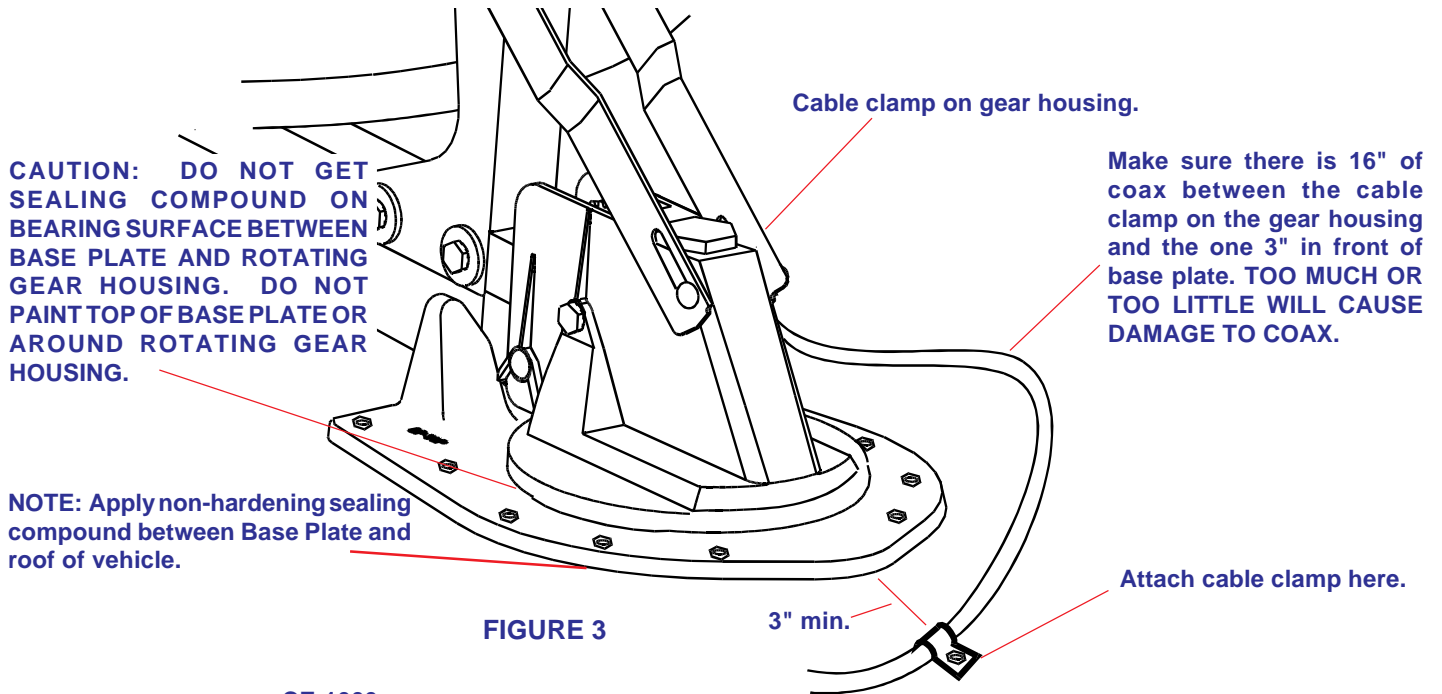

FIGURE 3
STEP 5. Mount antenna and lift on roof in travel position. Apply a liberal amount of approved nonhardening sealing compound on bottom of base plate and roof area around hole. See Figure 3. Secure base plate with screws provided.
STEP 7. Attach cable clamp to roof **3" in front of baseplate** as shown in Figure 3, use 7/16" flat washer between screw head and clamp, apply sealing compound over mounting screw head.